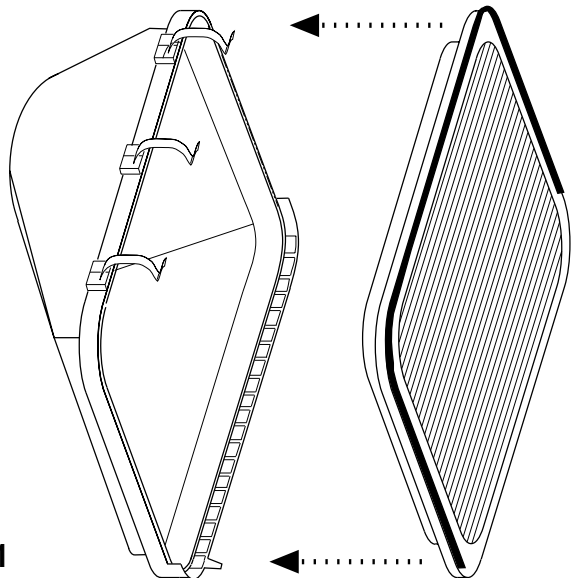

Fig. 1
- 5) Install the K&N Air Filter into the airbox base as shown. (Fig. 1.)